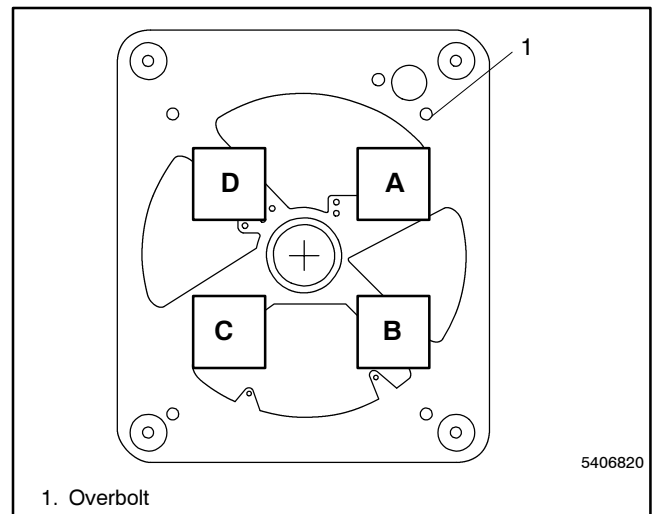

Figure 6-34 End Bracket
8. Use a hard rubber or dead blow hammer to alternately strike end bracket using medium-force blows. Use the rotating sequence shown in Figure 6-34 to install end bracket. With end bracket fully seated in stator assembly, install and tighten overbolts to 24 Nm (216 in. lb.).